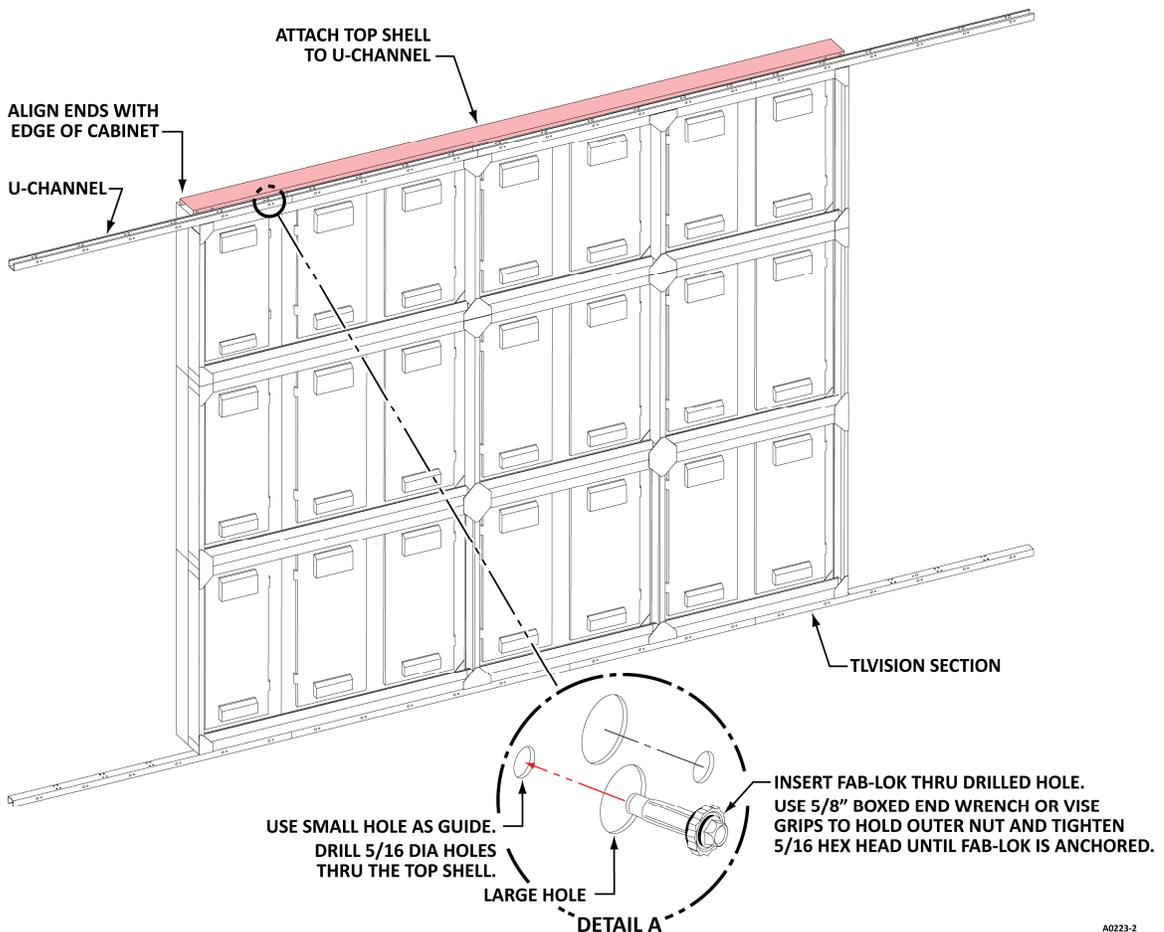

FIGURE 15 – TOP SHELL TO TLVISION SECTION
- a. Place one of the frame shells on top of the TLVISION. The top and bottom shells are identical. See Figure 15 below.